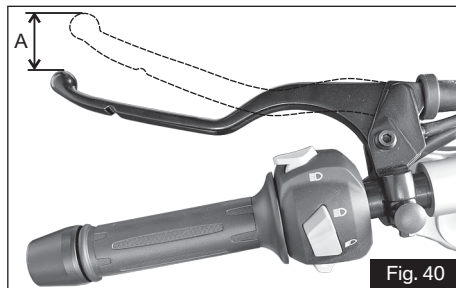

Fig. 40
- ♦ Measure the clutch free play (A) at the lever end as shown (ref. Fig 40).